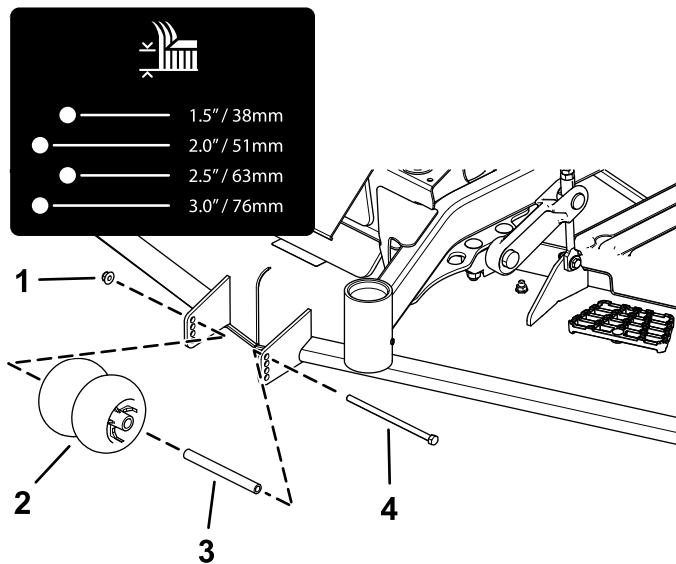

Figure 26
4. Adjust the anti-scalp rollers as shown in Figure 26 and Figure 27.